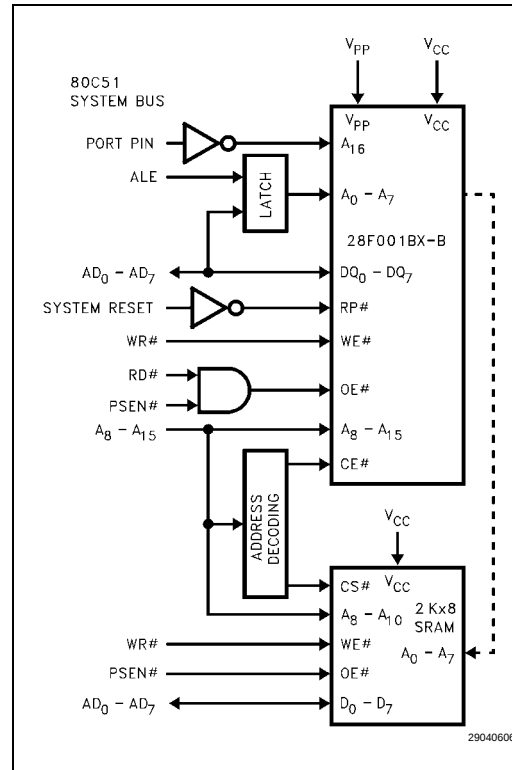

Figure 5. 28F001BX-B in a 80C51 System
-004	Removed Preliminary classification. Latched address A₁₆ in Figure 5. Updated Boot Block Program and Erase section: "If boot block program or erase is attempted while RP# is at V_{IH}, either the Program Status or Erase Status bit will be set to '1,' reflective of the operation being attempted and indicating boot block lock." Updated Figure 11, 28F001BX Erase Suspend/Resume Flowchart. Added DC Characteristics typical current values. Combined V_{PP} Standby current and V_{PP} Read current into one V_{PP} Standby current spec with two test conditions (DC Characteristics table). Added maximum program/erase times to Erase and Programming Performance table. Added Figures 13–16. Added Extended Temperature proliferations.